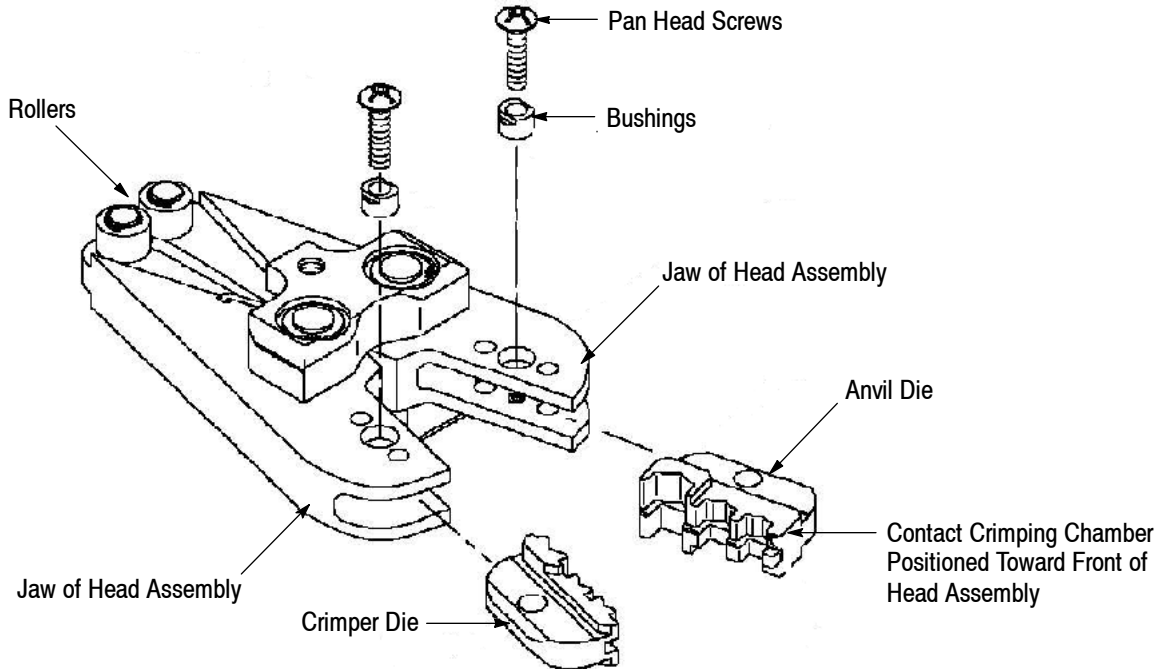

Figure 2
#### A. Shouldered Dies (See Figure 2)
*The die assembly shown in Figure 2 has center contact crimping chambers and is installed with the crimping chambers positioned toward the front of the head assembly. If shown otherwise in other instruction sheets, follow the die installation requirements for the specific application.*
3. Place the crimper die into the jaw of the head assembly as shown in Figure 2.